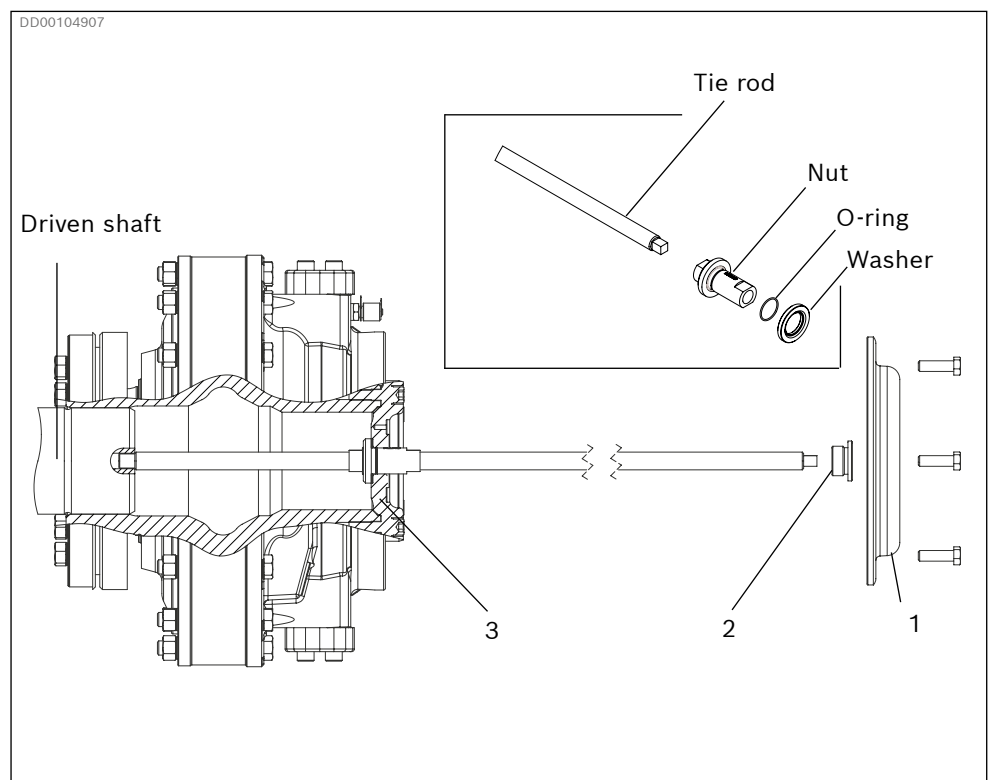

Fig. 59: Removing the CA coupling motor
2. Remove the end cover (1) together with screws and washers.
3. Dismount the plug G1" (2).
4. Remove the bearing retainer (3).
5. Install the assembly tool with the nut according to Fig. 59. Screw it into the driven shaft by using a wrench at the key grip at the end of the assembly tool.
6. Remount the bearing retainer (3) to the motor.